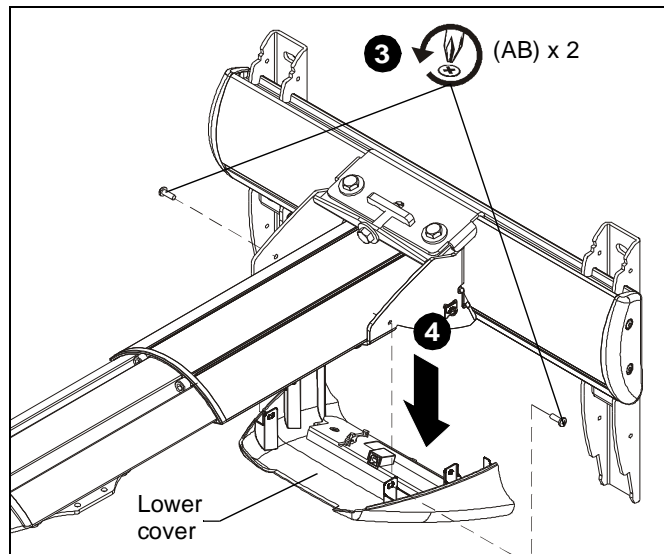

Figure 26
- Remove and save two 8-32 x 3/8" Phillips pan head screws (AB) from lower cover. (See Figure 26)
- Remove the lower cover from the wall mount. (See Figure 26)